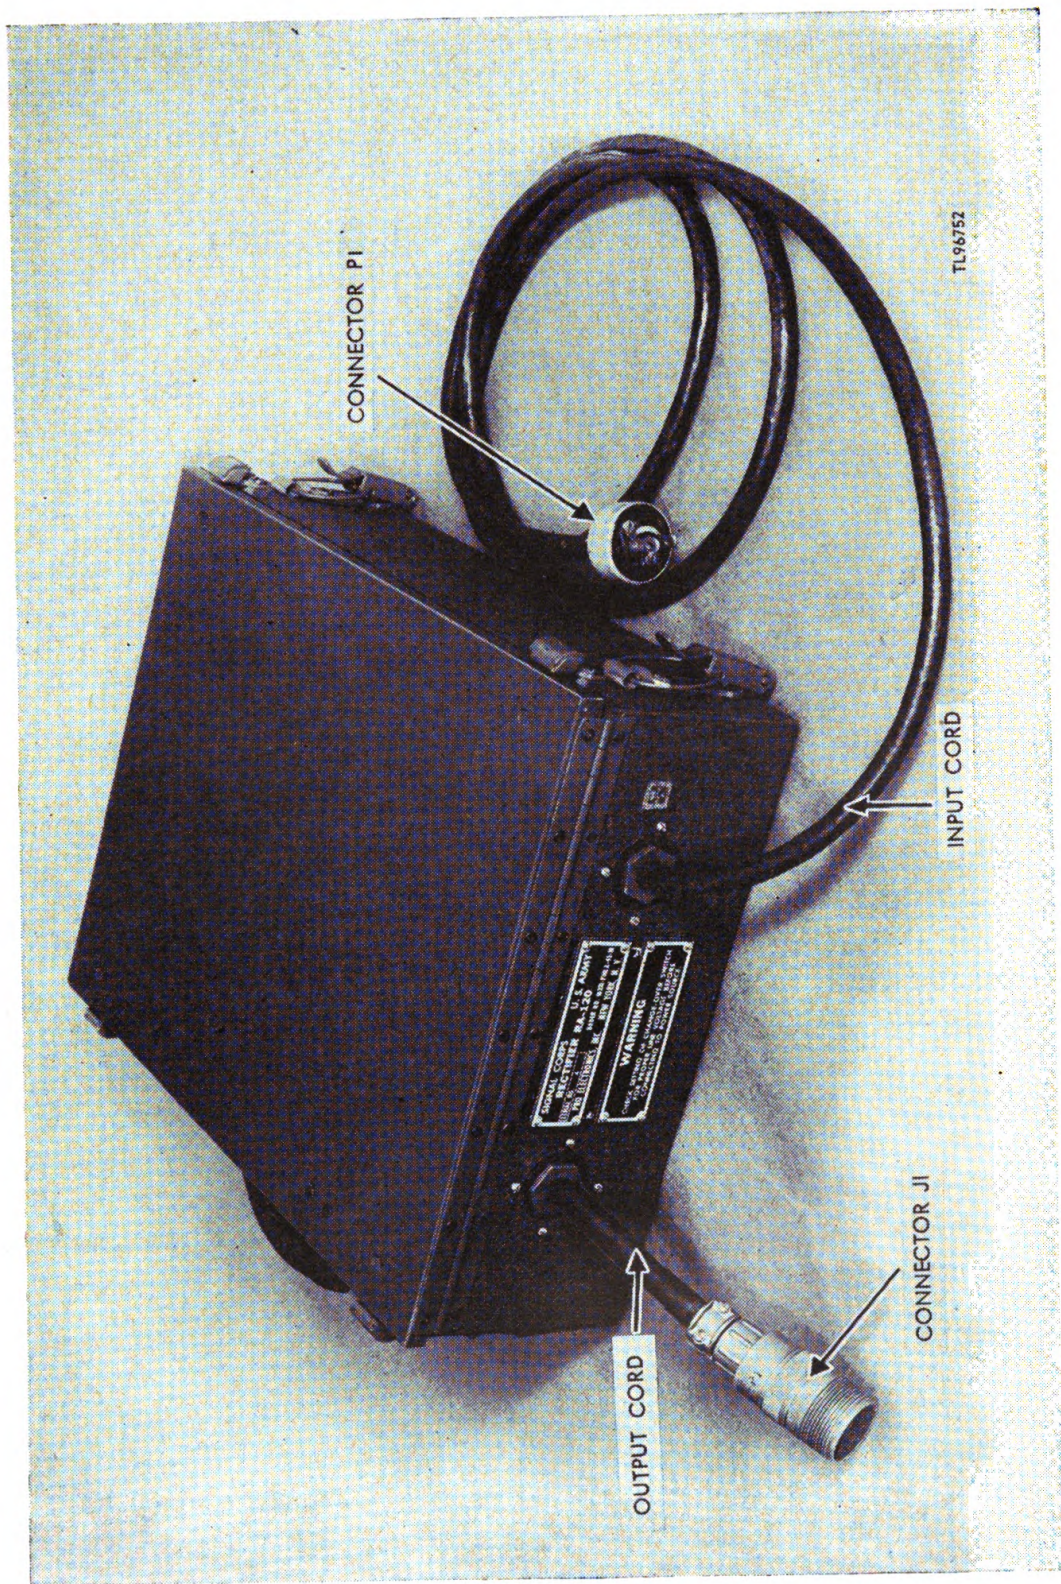

Figure 2. Rectifier RA-120, over-all view
a. Rectifier RA-120 (figs. 2 and 3) is used to furnish the plate and filament voltages for the operation of Radio Receiver and Transmitter BC-620 of Radio Set SCR-510 and Radio Receiver and Transmitter BC-659 of Radio Set SCR-610. It operates on a power source of 115 or 230 volts, 50 to 60 cycles alternating current (ac). Rectifier RA-120 is housed in a case similar to that used for Plate Supply Units PE-117 and PE-97. Thus the rectifier may be attached to either Radio Receiver and Transmitter BC-620 or Radio Receiver and Transmitter BC-659 by means of trunk fasteners and electrically connected by means of a short length of cable and an amphenol connector in the same manner as used in Plate Supply Units PE-117 and PE-97.
f. Attach the power cord connectors of the radio receiver and transmitter to the output cord connector of the rectifier unit (fig. 2).
g. Plug the input cord plug (fig. 2) into the line receptacle.